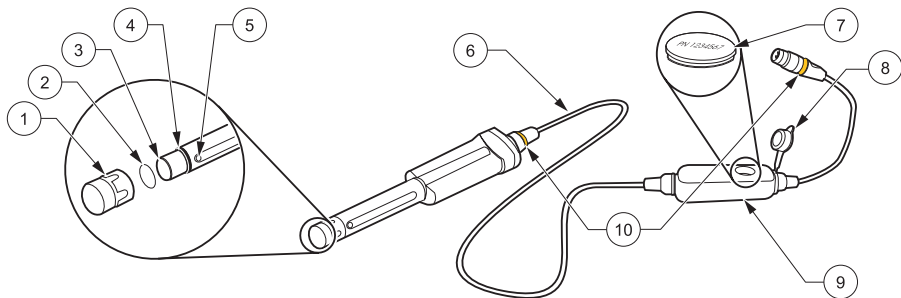

Figure 1 LDO101 Standard Probe—Sensor Cap and iButton
2. Remove the used sensor cap from the probe and discard. Do not touch or soil the exposed sensor lens (Figure 1).
4. Position the new cap seal on the probe body with the narrow shoulder of the seal facing the probe tip (Figure 1). Slide the seal until it rests against the probe body threads.
5. Place the new O-ring into the groove at the sensor tip (Figure 1). Do not touch the sensor lens.
6. Finger-tighten the new sensor cap onto the probe until the seal is compressed. Do not over-tighten. The cap will push the seal over the threads and into position (Figure 1). Do not touch or soil the sensor lens.
8. Pull to open the iButton®\* cover on the pressure-sensor module (Figure 1). Tip the module to remove the existing iButton.